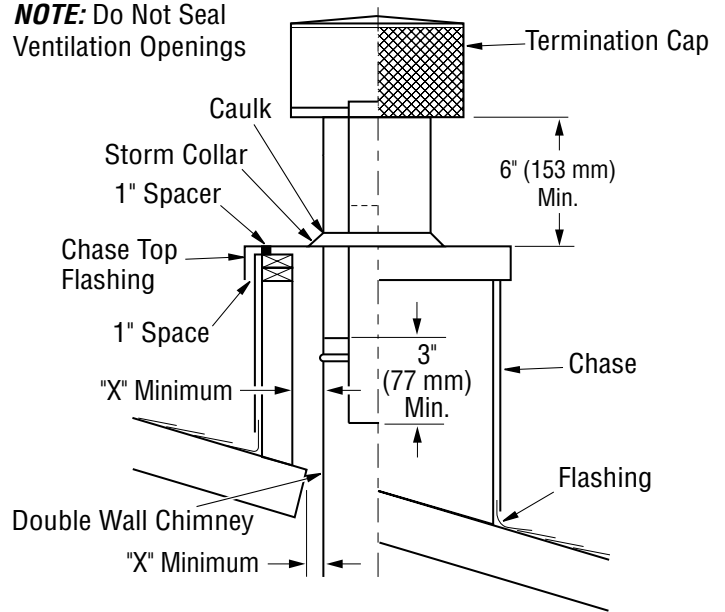

Figure 29 - Chase Installation
2. Place termination cap over opening. Slip stainless steel inner pipe of termination into inner stainless steel chimney section (see Figure 28). Place galvanized steel over chimney outlet (see Figure 29).
3. Attach storm collar where chimney pierces opening in flashing. Caulk where storm collar touches outer chimney pipe (see Figure 29).